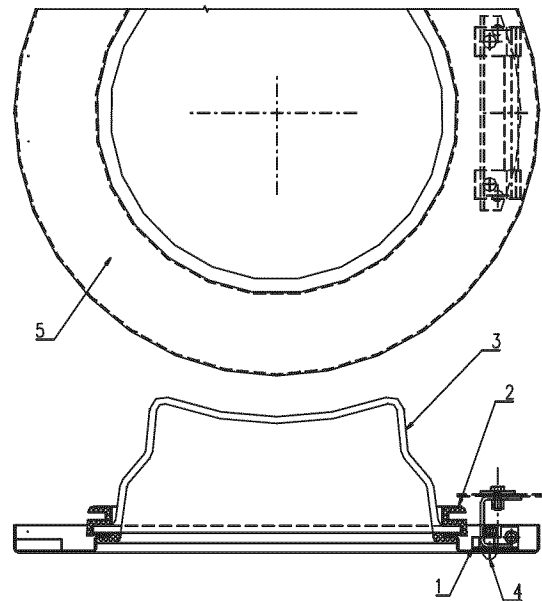

Fig.5.2.1.A Door fastening
1. Loosen two bolts (6) fastening the top door hinge (7), fig.5.2.1.B.